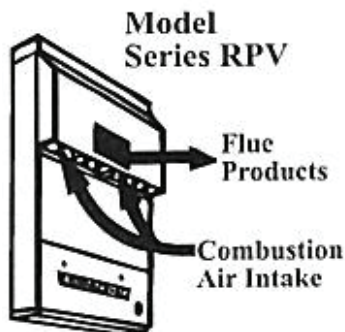

Figure 5. Combustion Air Intakes on Power-Vented Models
Figure 5 shows the combustion air intakes on a power-vented model series RPV unit.
- Power-vented outdoor models have screened flue gas exhaust and combustion air intake openings located on the side of the furnace just above the control access panel as shown in Figure 5. These openings are designed to discourage the recirculation of combustion products and to provide for furnace operation in all normal weather conditions.